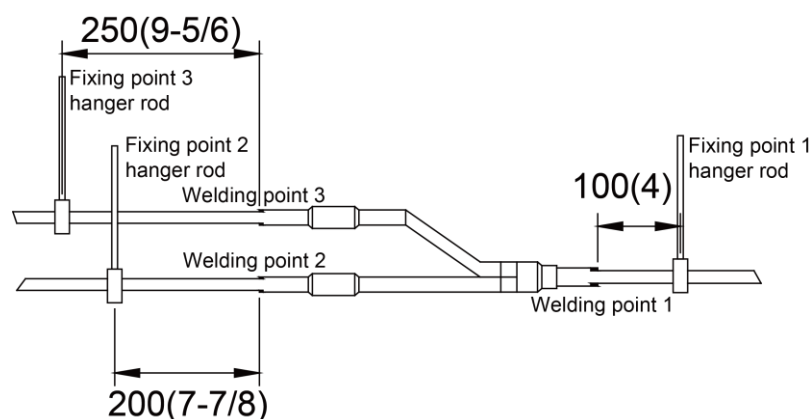

Fig.4.4.6
- (3) There must be three fixing point for both horizontal and vertical installation of the Y-type manifold. See Fig.4.4.6.